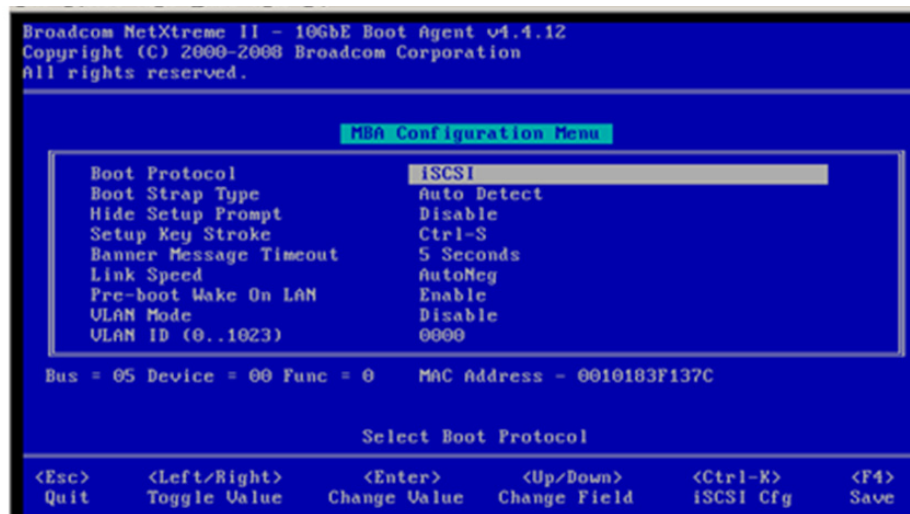

Figure 28 Entering the iSCSI configuration
2. Press **Ctrl - K** to enter the iSCSI configuration, as shown in Figure 28.